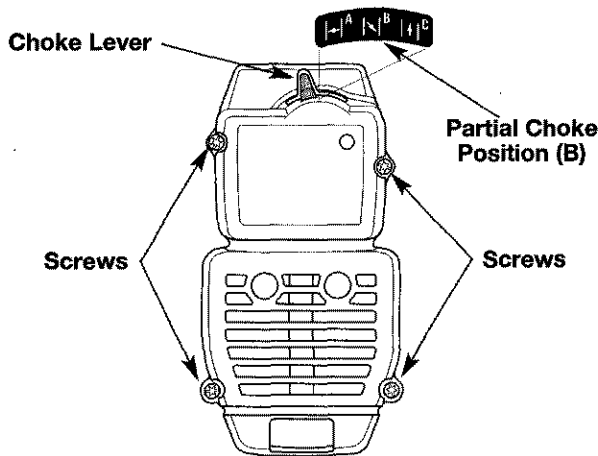

Fig. 29
NOTE: The choke lever must be in the **PARTIAL** choke position (**B**) (Fig. 29) to remove the air filter/muffler cover.
2. Remove the four (4) screws securing the air filter/muffler cover (Fig. 29). Use a flat blade or T20 Torx bit screwdriver.
NOTE: The choke lever must be in the **PARTIAL** choke position (B) (Fig. 29) to install the air filter/muffler cover.
2. Insert the four (4) screws into the holes in the air filter/muffler cover (Fig. 29) and tighten.